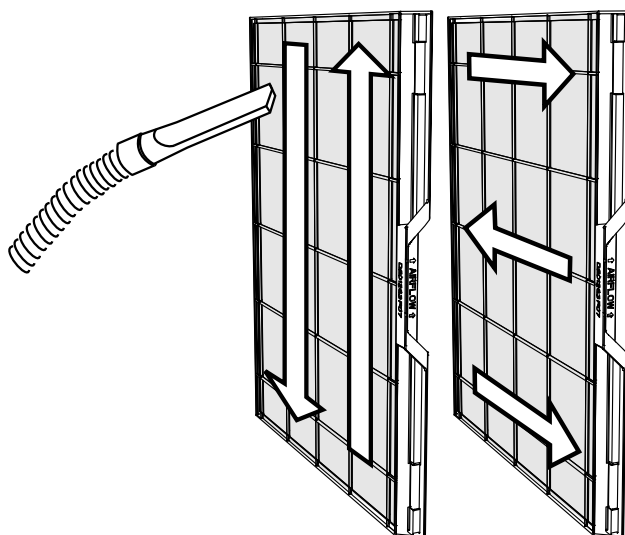

Figure 31
- Using a vacuum hose, vacuum in even strokes across the length of the PRE-FILTER. After vacuuming the entire PRE-FILTER using even strokes going in one direction, repeat the process using even strokes going in the opposite direction as shown in Figure 31.